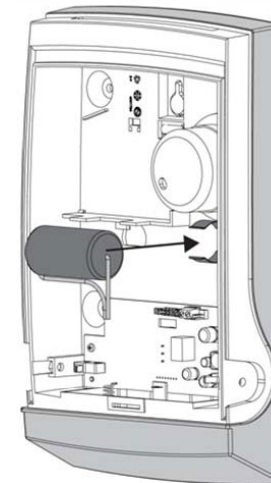

Figure 4
2. Place batteries as instructed in Figure 4.